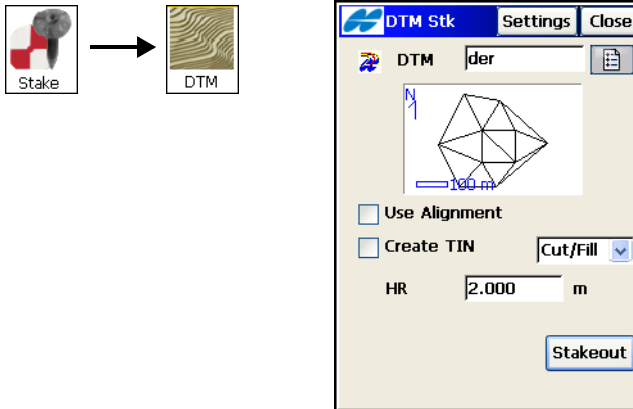

Figure 9-49. Select DTM
2. On the **DTM Stk** screen (Figure 9-49), tap the **List** button to select a TN3 file containing the desired DTM.
3. On the **DTM Stk** screen (Figure 9-49), check and enable the *Use Alignment* box to use station and offset information while staking the DTM, check and enable the *Create TIN* box to generate a new TIN (TN3) Cut/Sheet model of the points staked.